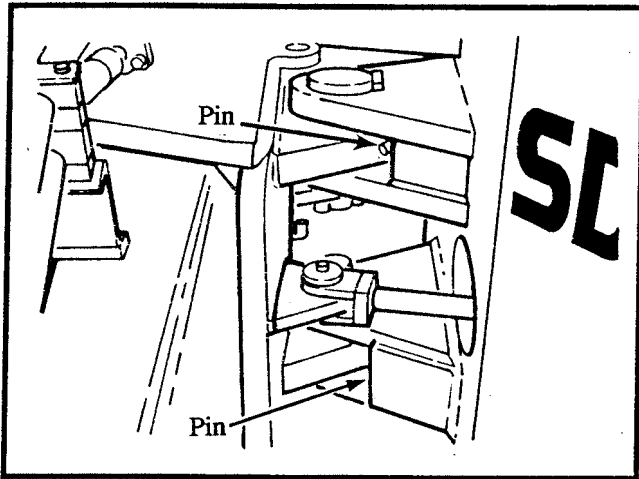

Figure 9-3. Articulation Swivel Pins
The articulation swivel pins are located in the articulation joint area. Grease the two fittings with three (3) shots of MPG-EP grease. Refer to Figure 9-3. The same **DANGER** precaution mentioned on page 9-1 concerning the oscillation swivel pin applies when working around the articulation swivel pins.